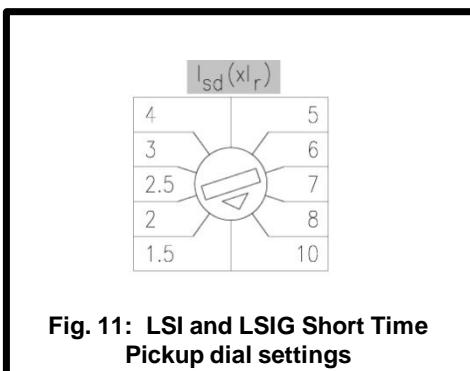

Fig. 11: LSI and LSIG Short Time Pickup dial settings
Circuit breakers with the LSI and LSIG catalog number suffixes have an adjustment to set the Short Time Pickup. Short Time Pickup is an overcurrent protection setting with intentional tripping delay. There are ten (10) Short Time Pickup current settings that range from 1.5 to 10 times the Continuous Current (I_r) setting (see Fig. 11).